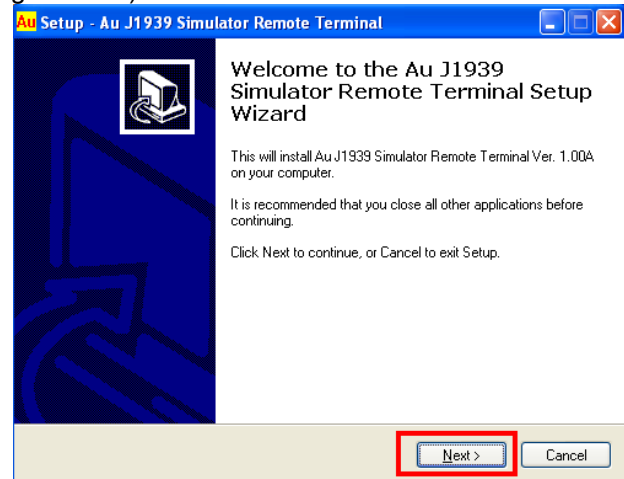

Figure A-3
3. "Welcome to the Au J1939 Simulator Remote Terminal Setup Wizard" window pop up, click "Next" to continue (Figure A-3).